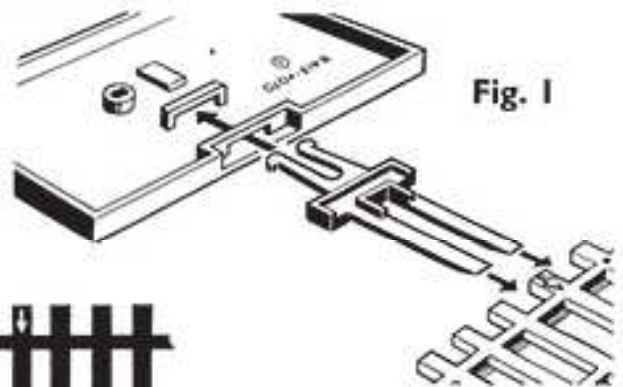

Fig. 1
1. The Pick-up Hook and Receiving Bin units have bases which "clip-fit" to the track. Fit a set of prongs to each base (Fig.1). The bases can then be fitted to the track by inserting the prongs into the side slots between the underside of the rails and the track base (Fig.1a). The positions of the slots are indicated by arrows embossed on the underside of the track (Fig.1b).